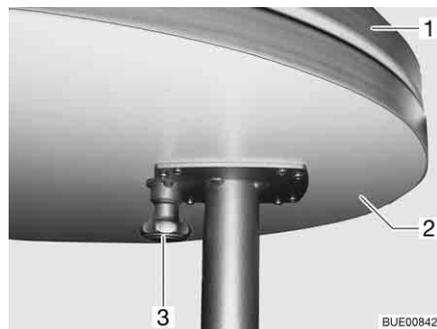
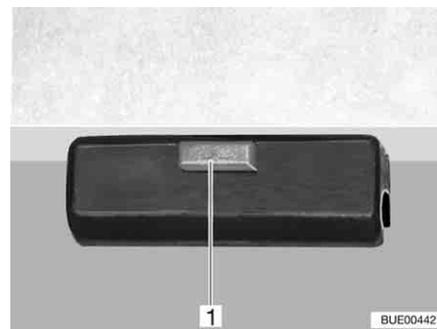

Fig. 115 Swing-out table extension
Fig. 116 Lock
- Pull the knob (Fig. 115,3) of the lock down and swing out the table extension (Fig. 115,2).
- Swing the table extension (Fig. 115,2) under the table-top (Fig. 115,1) until the lock latches (Fig. 116,1) in place audibly.
- Release the lock (Fig. 116,1) on the table top.